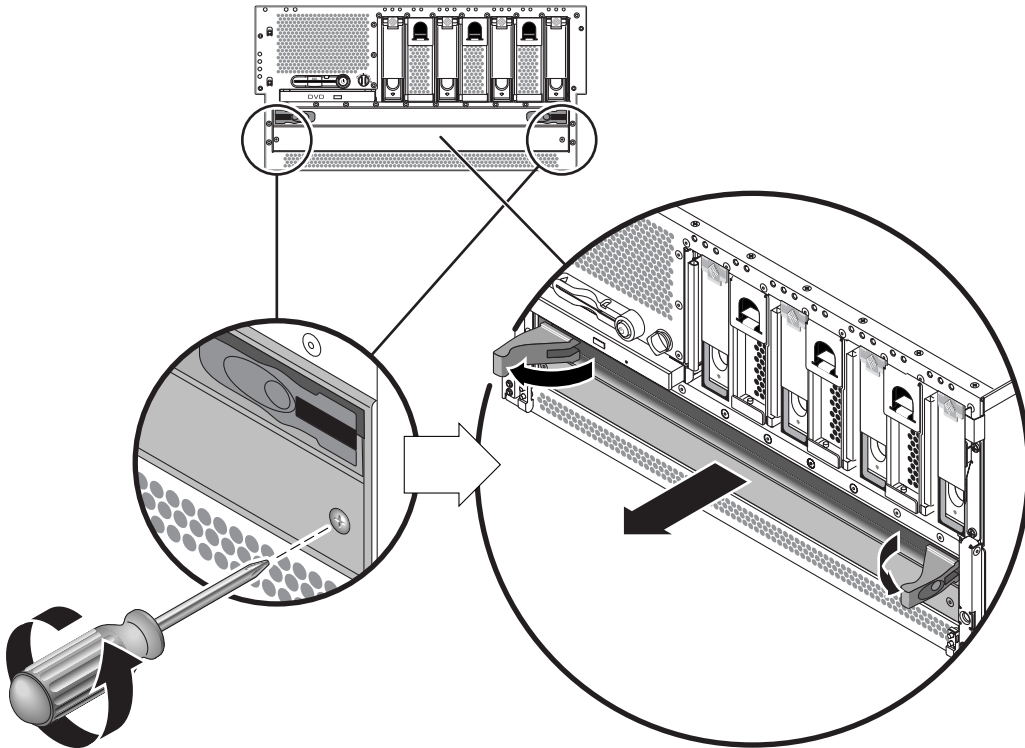

FIGURE 4-34 Removing the Power Distribution Board
6. Using a Phillips screwdriver, loosen the two captive screws that secure the base of the power distribution board to the server (FIGURE 4-34).
7. Pull on the ejector latches and pull the power distribution board out of its bay (FIGURE 4-34).